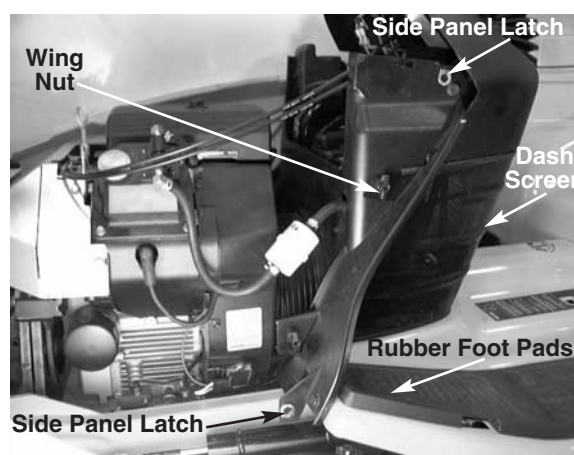

FIGURE 4.
7. Remove both rubber floor pads from the running boards. See figure 4.
9. Remove both side panels from the tractor by raising the latches horizontally and turning the latches 1/4 turn. See figure 4.
10. Loosen all four plastic wing nuts holding the dash panel screen in place. See figure 4.
11. Pull the dash screen towards the rear of the unit and out of the dash panel. See figure 4.